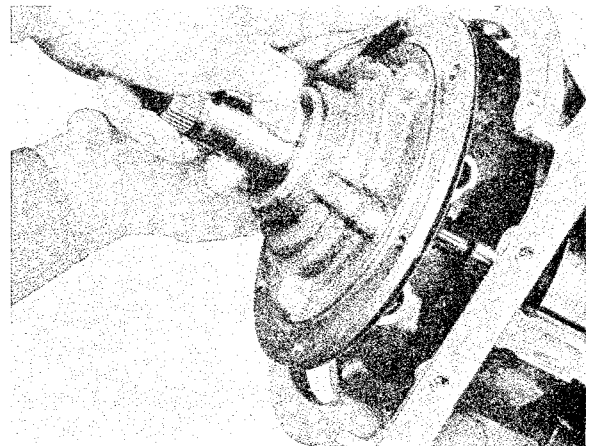

Fig. 4-82. Pump removal
22. Unscrew the six bolts which retain the pump to the body. Withdraw the pump and remove the gasket. Push the shaft inwards when withdrawing the pump, see Fig. 4-82.